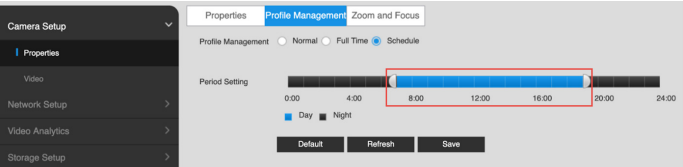

Fig. 3.4
8. Use the blue slider bar (Day) to configure the “Period Setting” time covering 7:00 hours to 19:00 hours, see Fig. 3.4. Save your settings.